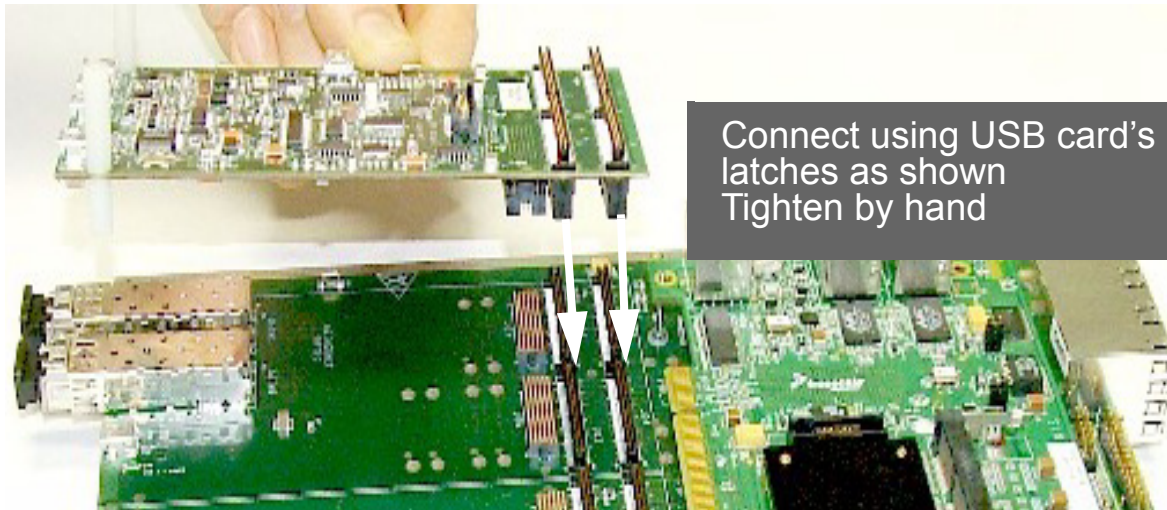
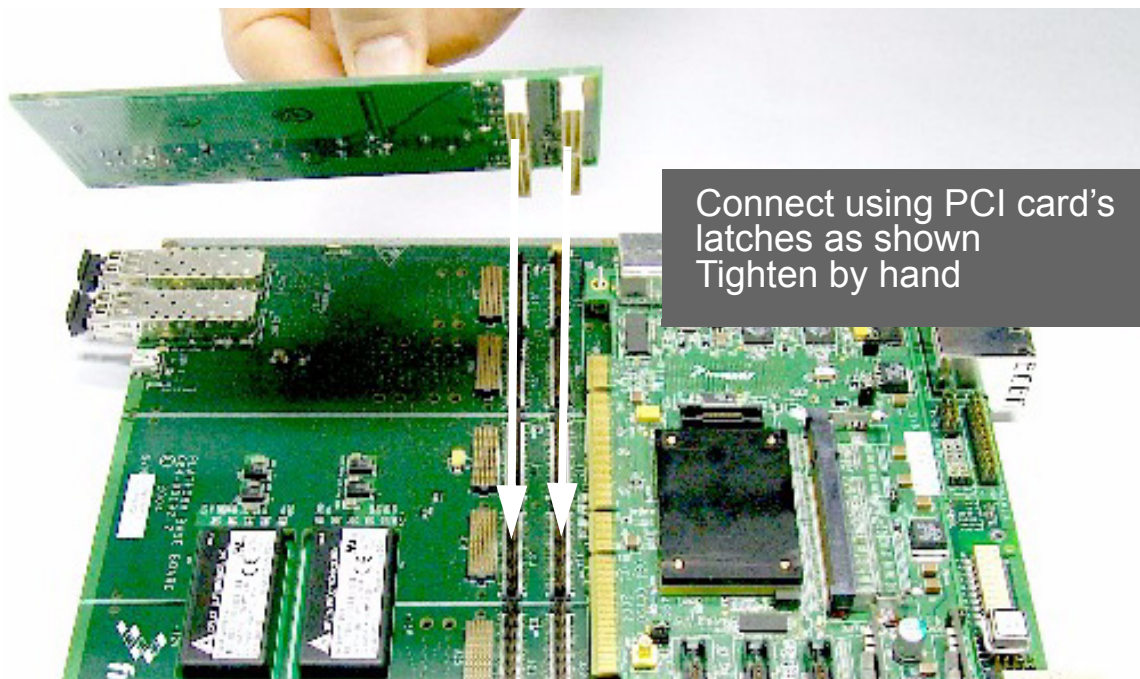
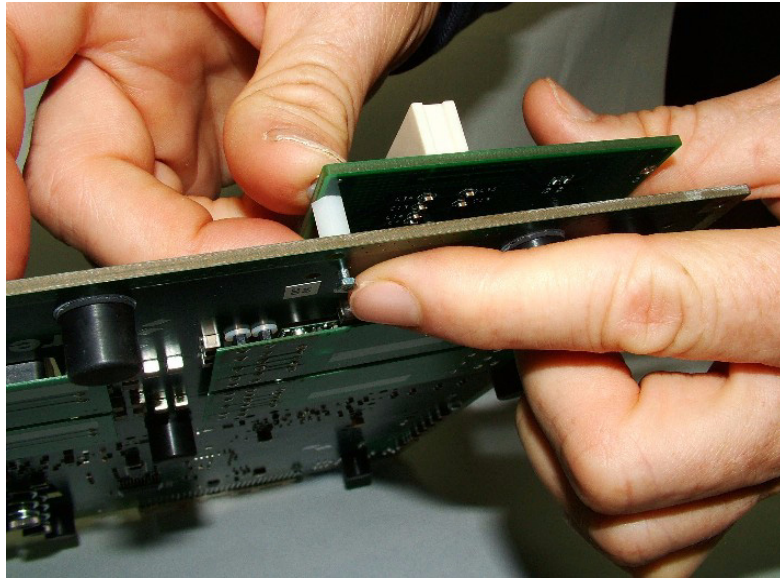

Figure 2-8 Connecting USB card to PIB
Figure 2-9 Connecting PCI card to PIB
Figure 2-10 Inserting spacers between PCI card and PIB
8. If you wish to work with the USB card, or any of the PCI cards, follow the illustrations in Figure 2-8, Figure 2-9, and Figure 2-10 to connect these cards to the PIB.